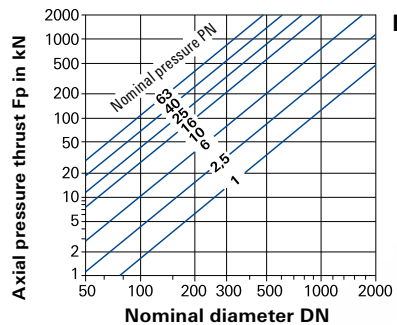

Fig. 2
- Make sure that the fixed points at the ends of pipeline sections fitted with expansion joints are of adequate size. They must be able to withstand not only the axial pressure thrust, which can be very large, but also the adjustment force of the expansion joint and the friction forces of the pipe guides and supports (Fig. 2)